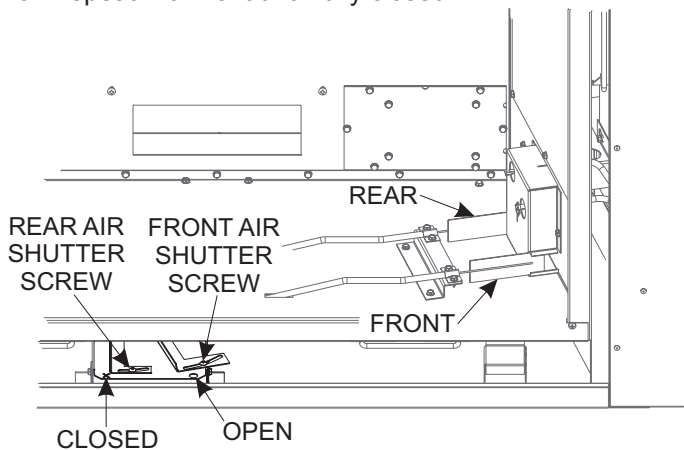

Figure 6
9. Loosen rear air shutter screw and rotate handle to the left until fully closed is achieved and tighten down screw. **See Figure 6.**